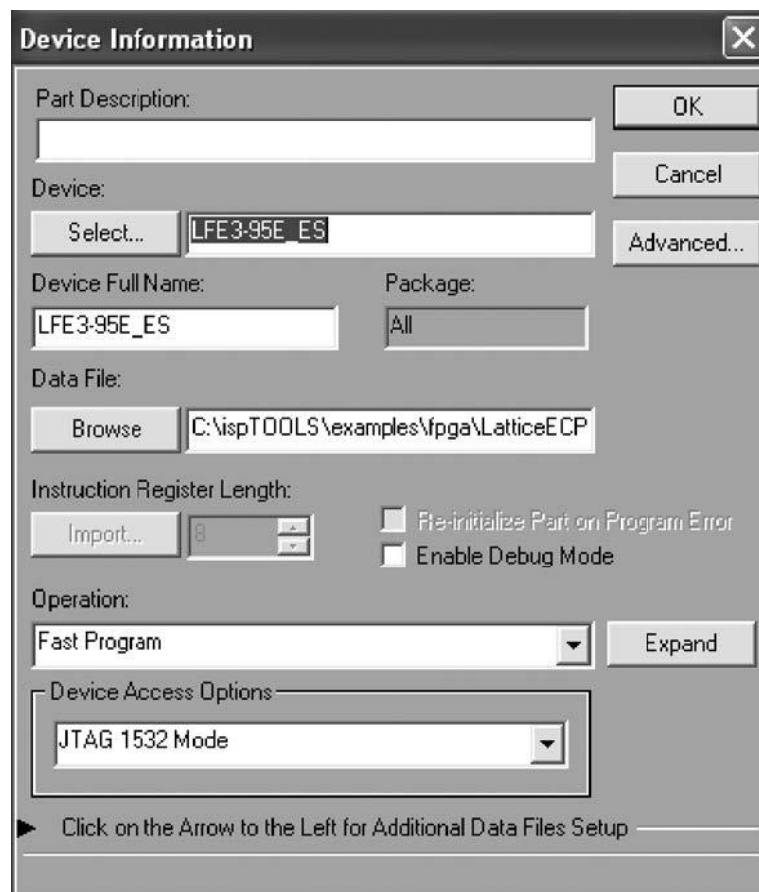
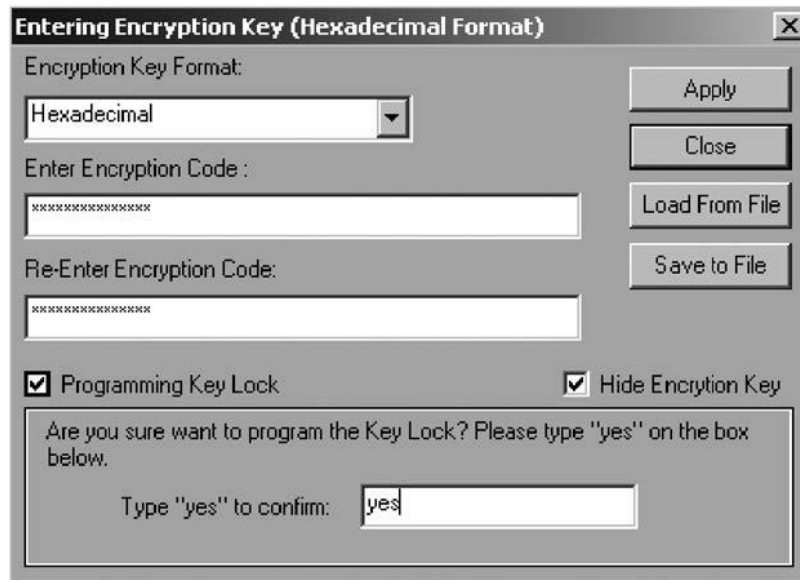

Figure 10.4. Device Information Window (Encryption Option)
Figure 10.5. Enter the Encryption Key
3. Double-click on the line in the chain containing the LatticeECP3. This opens the Device Information window (see Figure 10.4). From the Device Access Options drop-down box, select Security Mode and then click on the **Security Key** button to the right. The window will look similar to Figure 10.5.